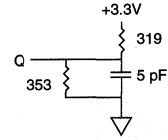

Fig. 2 OUTPUT LOAD EQUIVALENT
- ^tHZCE, ^tHZOE and ^tHZWE are specified with C_L = 5pF as in Fig. 2. Transition is measured ±200mV from steady state voltage.